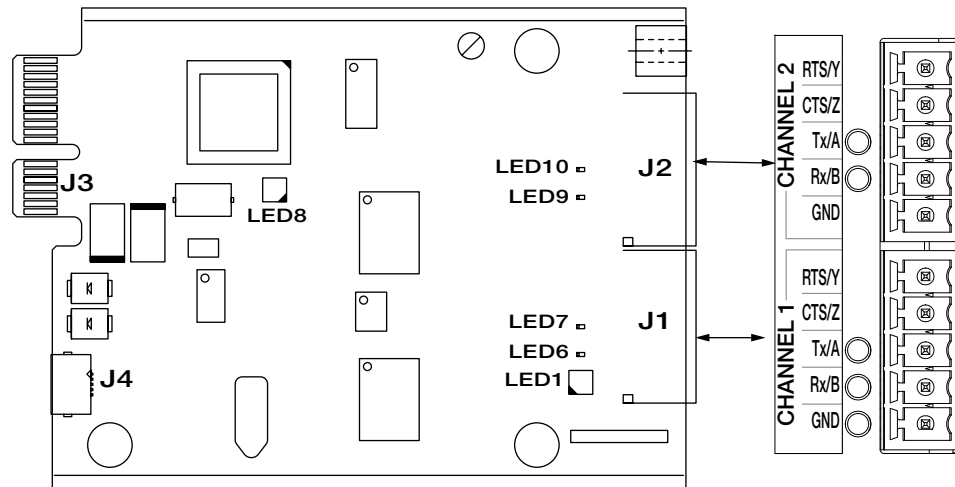

Figure 3. Serial Card Expansion Board
6. Make connections to the option card. See Figure 3 and Table 4.